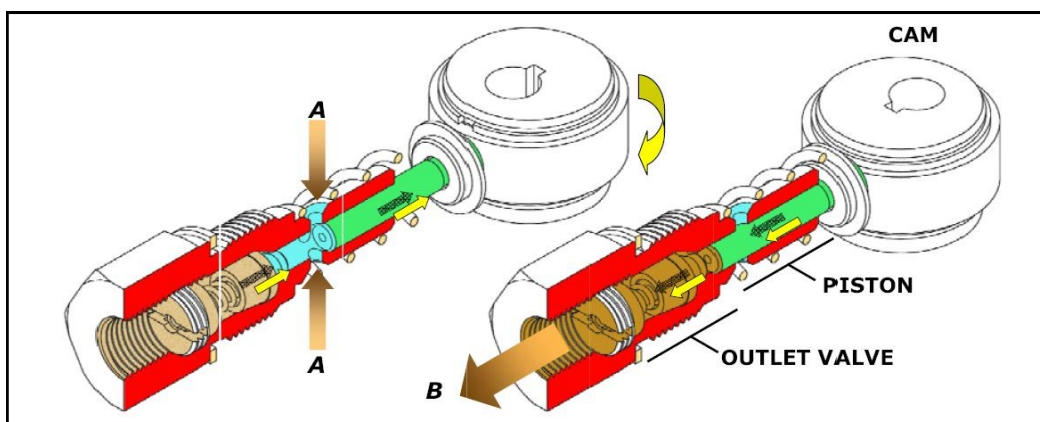

Figure 4
**Figure 4** shows the pumping element at work: